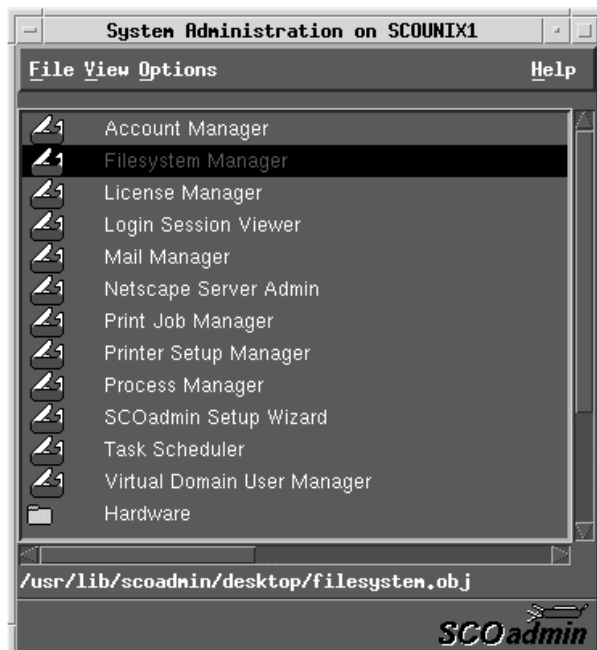

Figure 3-14. Invoke File System Manager
2. The Netfinity ESCON Adapter Software CD must be mounted before you can install the ESCON Adapter software. In SCAdmin run the File System Manager (Figure 3-14).
Select **Add Mount Configuration** and then **Local...** on the **Mount** pull-down menus of the File System Manager (Figure 3-14).